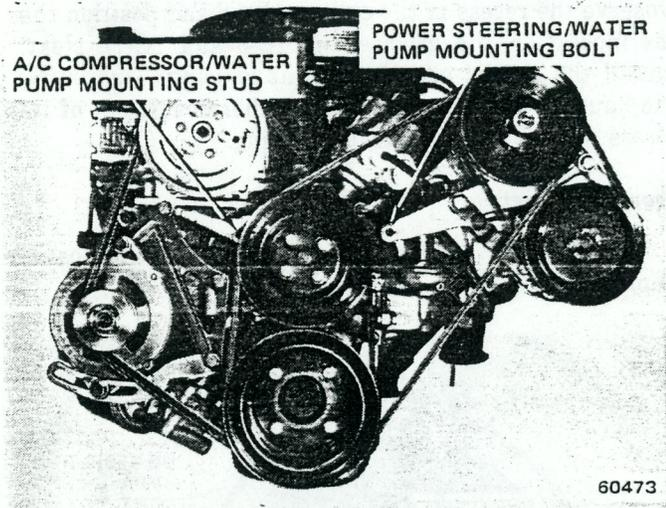

Fig. 1C-4 Water Pump Removal—Eight-Cylinder Engine
- (2) Drain radiator and disconnect upper radiator hose at radiator.
- (3) Loosen all drive belts.
- (4) If vehicle is equipped with radiator shroud, separate shroud from radiator.
- (5) Install one radiator/shroud screw to retain radiator.
- (6) Remove fan and hub from water pump. Remove fan and shroud, if equipped, from engine compartment.
- (7) If vehicle is equipped with air conditioning, install double nut on air conditioning compressor bracket-to-water pump stud and remove stud (fig. 1C-4).
- (8) Remove alternator and mount bracket assembly and place aside. Do not disconnect wires.
- (9) If equipped with power steering, remove two nuts that attach power steering pump to rear half of pump mounting bracket.
- (10) Remove two screws that attach front half of bracket to rear half.
- (11) Remove remaining upper screw from inner air pump support brace, loosen lower bolt and drop brace away from power steering front bracket (fig. 1C-4).
(12) Remove front half of power steering bracket from water pump mounting stud.
(13) Disconnect heater hose, bypass hose and lower radiator hose at water pump.
(14) Remove water pump and gasket from timing case cover.
(15) Clean all gasket material from gasket mating surface of timing case cover.